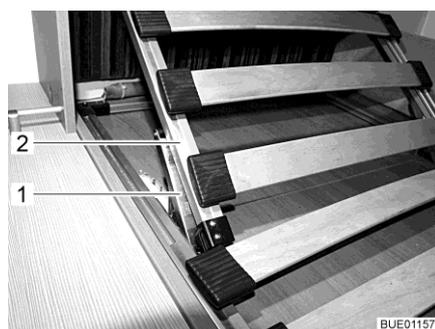

Fig. 141 Adjustable head section
- Raise the head section (Fig. 141,2) of the slatted frame to the desired position. The support (Fig. 141,1) locks automatically into place.
- Raise the head section (Fig. 141,2) of the slatted frame until the lock is released.